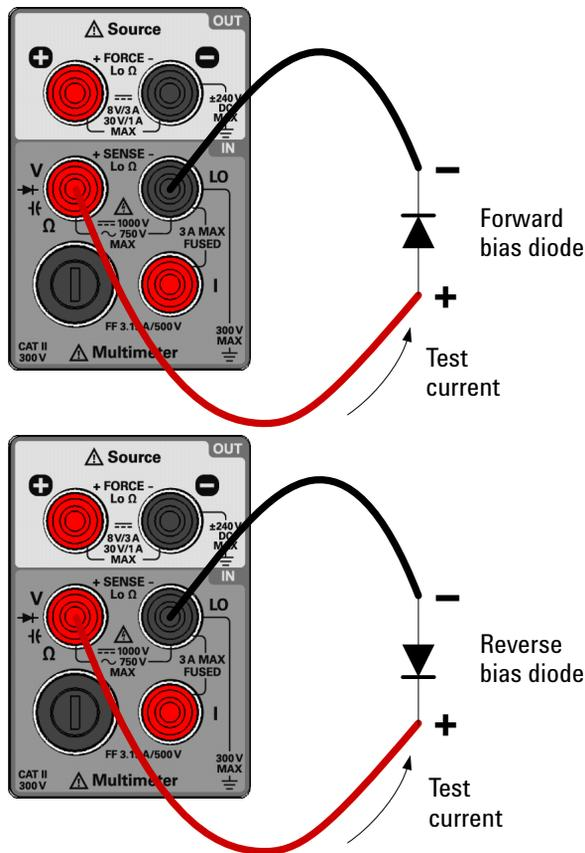

Figure 2-9 Terminal connections for diode tests
- 3 Connect the other end of the red test lead to the positive terminal (anode) of the diode and the black test lead to the negative terminal (cathode). Refer to Figure 2-9 on page 51.
- 5 Reverse the probes and measure the voltage across the diode again (refer to **Figure 2-9 on page 51**). Assess the diode according to the following guidelines: